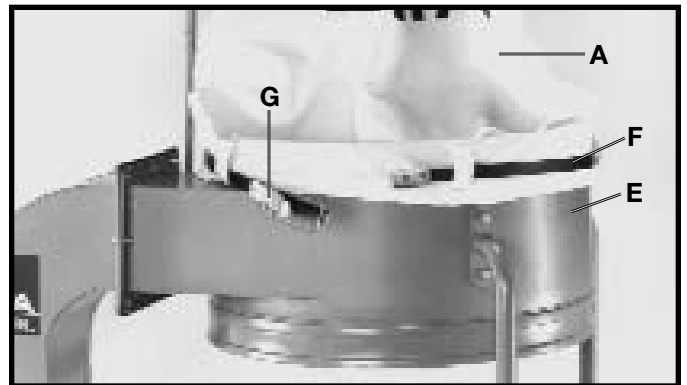
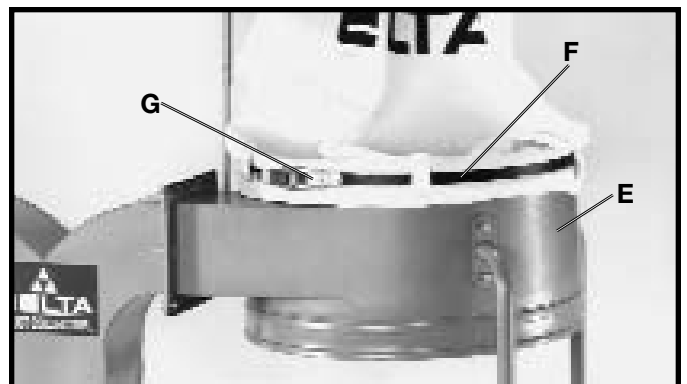

Fig. 24
Fig. 25
3. Insert band (F) Fig. 24, through the loops of filter bag (A) Fig. 24, over upper lip of drum (E) and fasten with clamp (G) as shown in Fig. 25. **NOTE:** Make certain band (F) is positioned in the channel of drum (E) before fastening clamp (G).